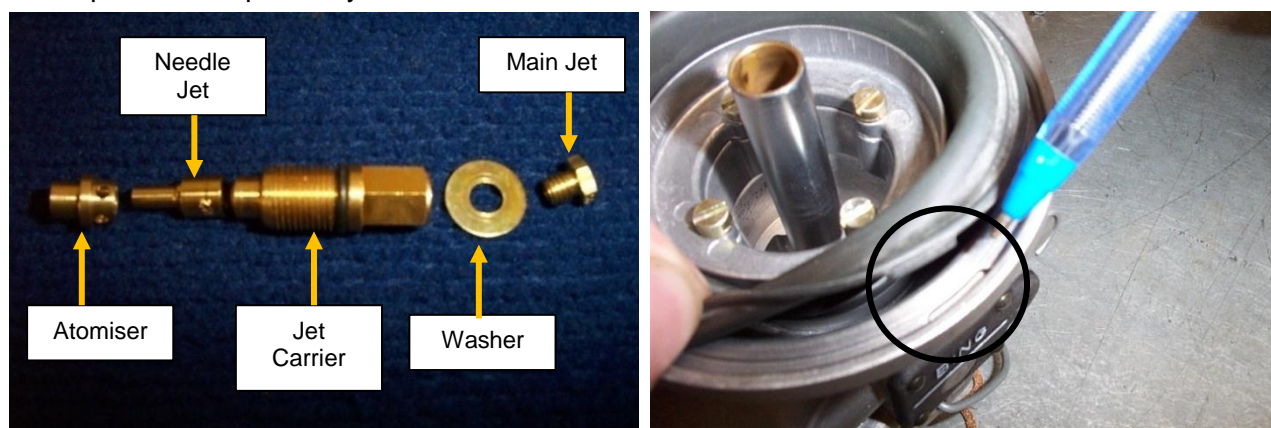

Figure 113 – Carburettor Jets & Diaphragm
- During re-assembly ensure that the atomiser, needle jet, jet carrier, washer and main jet are installed in the correct orientation and correct order as shown in Figure 113 (left). Also ensure that the tag on the diaphragm is aligned and fitted correctly to the socket in the carburettor body as shown in Figure 113 (right)